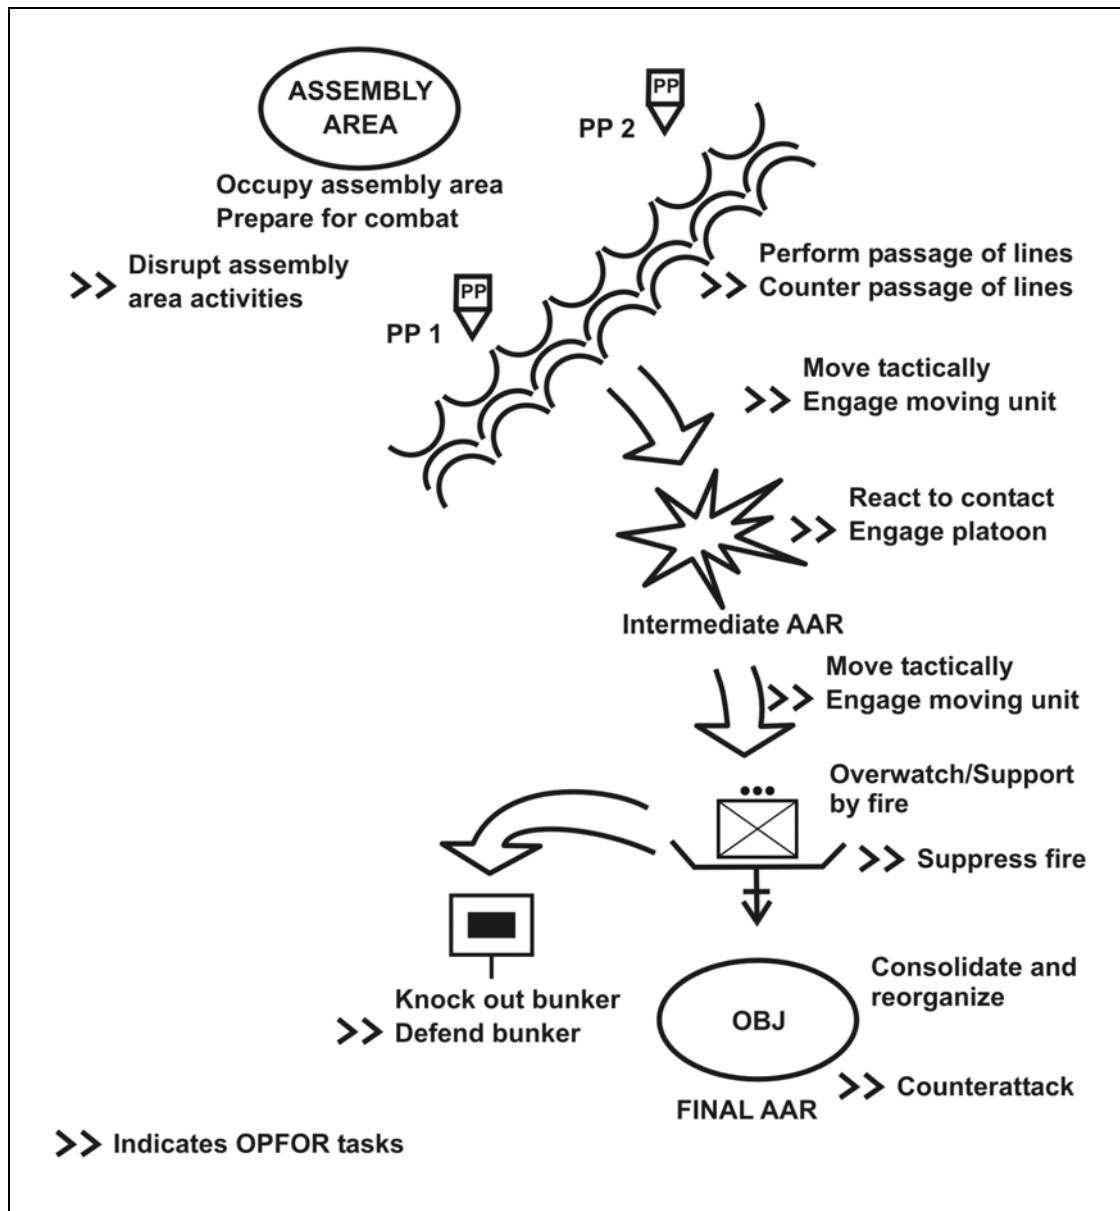

Figure F-14. Graphic scenario of task performance.
a. Commanders must develop a graphical scenario of task performance to fit the exercise. In the scenario, the commander must place all rifle infantry critical collective tasks that support his METL and need improvement in a logical sequence. Figure F-14 shows an example task-performance scenario.